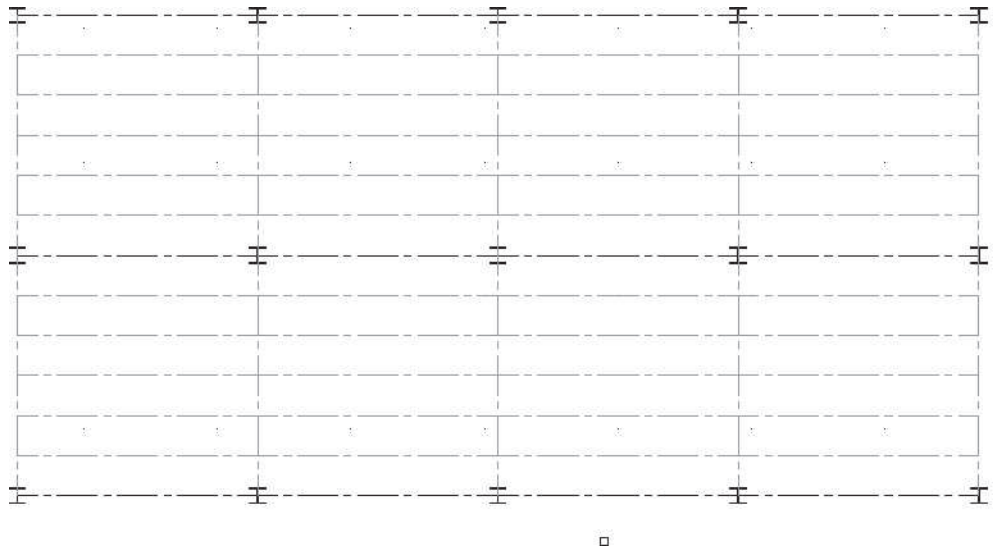

FIGURE 13.29 Medium Detail display of structural members
24. Select **Medium Detail** from the **Display Configuration** flyout menu of the **Drawing Window** status bar to view the structure as shown in Figure 13.29.